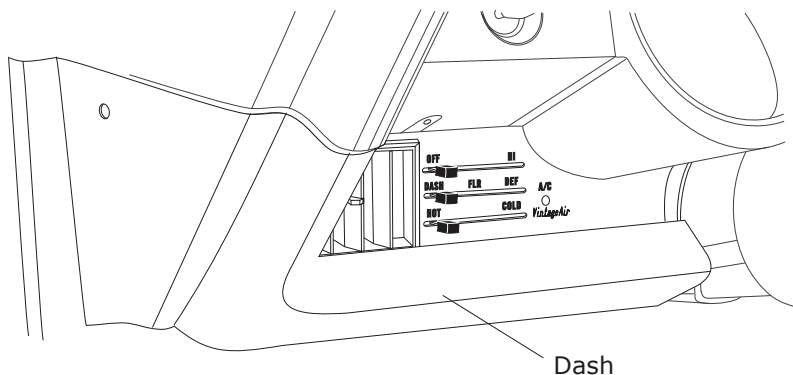

Figure 9
1. Using OEM screws, reinstall the bottom portion of the dash as shown in Figure 9, below.